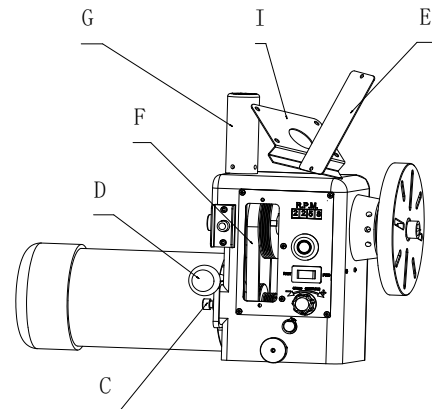

FIG.23
4. Loosen two set screws in the handwheel (G, Fig. 23) and remove.
5. Loosen set screw enough to unthread the Plate (I, Fig. 23) and remove.
6. Now you can replace the belt (F, Fig. 23).